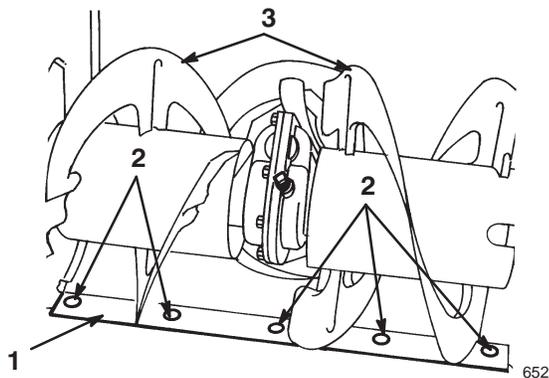

Figure 20
- 1. Skid (2)
- 2. Flange nuts (4)
- 3. Auger side plate (2)
- 6. Support the **auger blades** so that they are 1/8 inch (3 millimeters) off the ground (Fig. 20).
- 8. To adjust the scraper, loosen the 5 mounting screws (Fig. 20), level the scraper, and tighten the mounting screws.